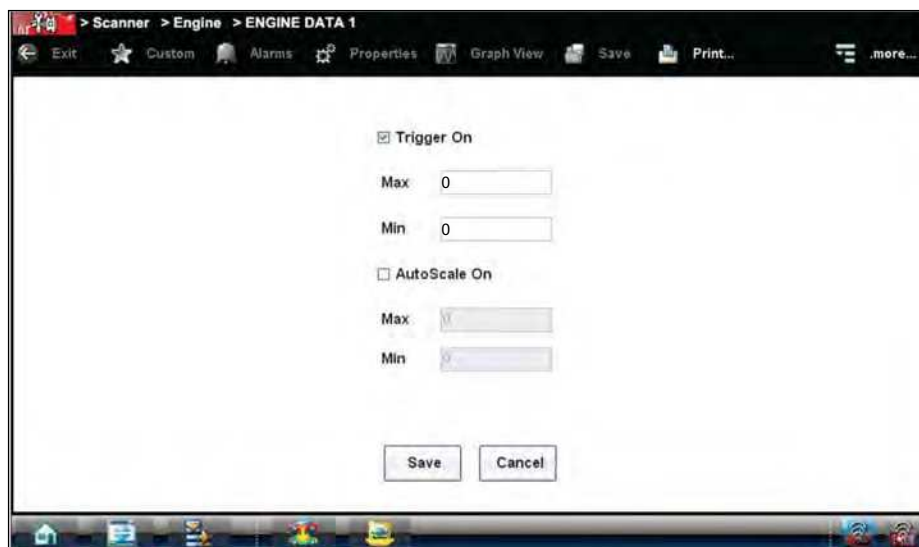

Figure 5-15 Sample Graph Properties dialog box
2. From the Graph Properties dialog box, tap **Triggers On**. A check mark appears in the box and the minimum and maximum fields activate (Figure 5-15).